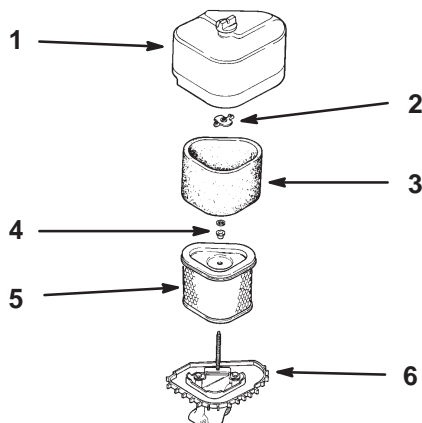

Figure 17
2. Clean around the air cleaner cover to prevent dirt from getting into the engine and causing damage. Unscrew cover (Fig. 17).
3. Carefully slide the foam element off the paper element (Fig. 17).
4. Unscrew the wing nut and remove the air cleaner assembly (Fig. 17).
1. Carefully slide the foam element onto the paper air cleaner element (Fig. 17).
2. Place the air cleaner assembly onto the air cleaner base (Fig. 17).
3. Install the air cleaner cover and secure with cover nuts (Fig. 17).